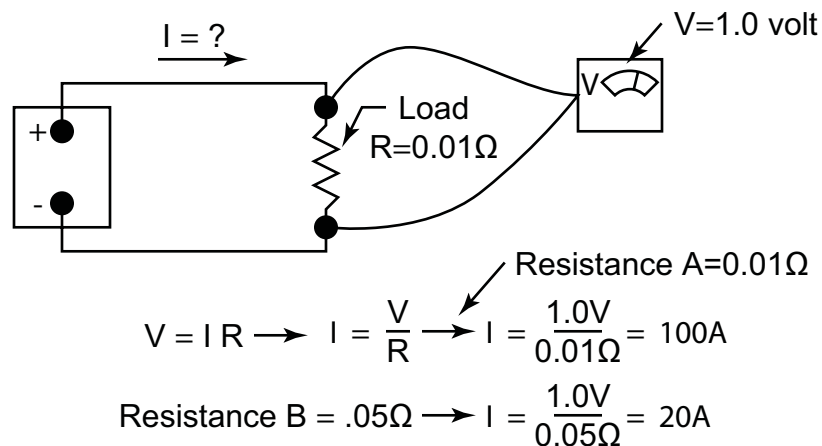

Figure 3: Ohm's Law Example
- ▶ Consider the circuit in Figure 3 with resistance A = .01Ω